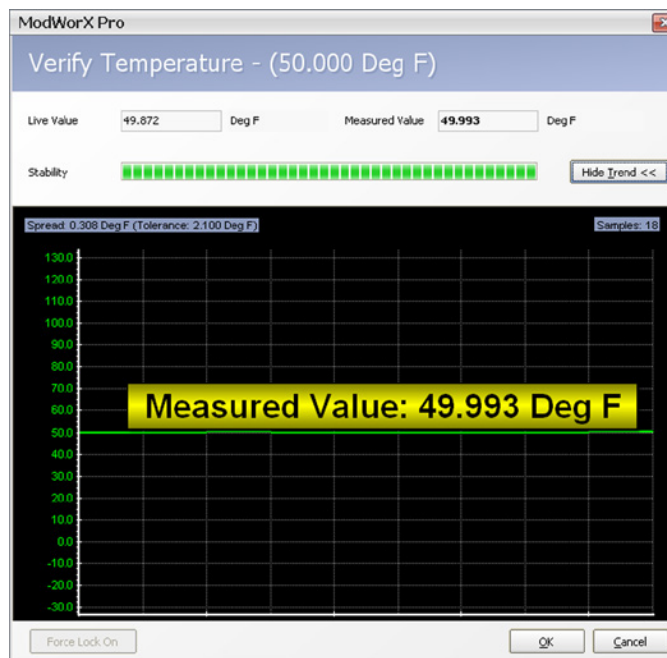

Figure 8.22
- When the Scanner reads 10 consecutive readings (within the tolerance based on the range of the sensor), it will “lock on” to that data set and display a “measured value” (Figure 8.22, page 125).